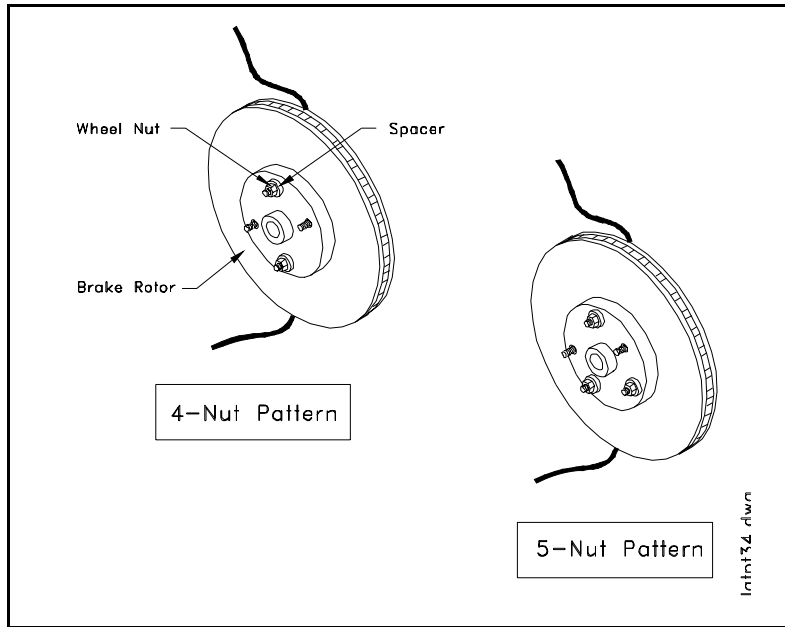

Figure 1 Mounting of Spacers & Wheel Nuts
BRC40-Fig1
2. Place Spacers on wheel studs as shown in Figure 1. Replace and tighten nuts to manufacturer's specification using torque wrench.